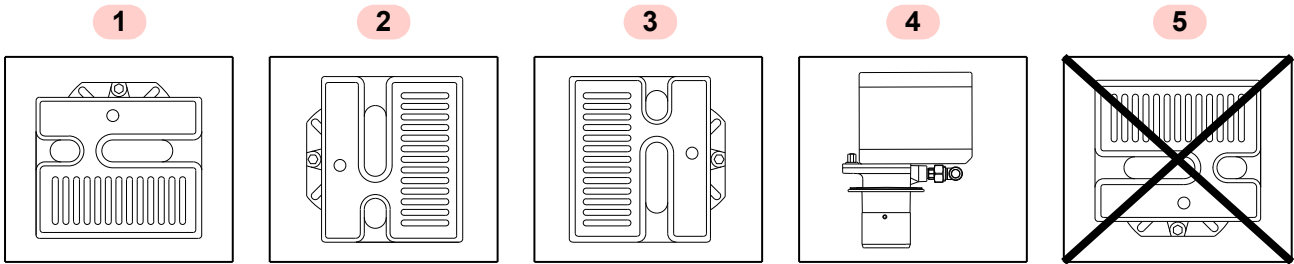

Fig. 5
- The burner is designed to operate only in positions 1, 2, 3 and 4 (Fig. 5).